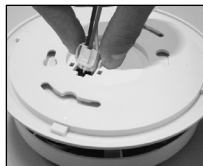

FIGURE 4
5. Remove the cardboard square from the connector pins and plug the AC QUICK CONNECTOR into the back of the alarm (see figure 4), making sure that the locks on the connector snap into place. Then push the excess wire back into the electrical box through the hole in the center of the mounting bracket.